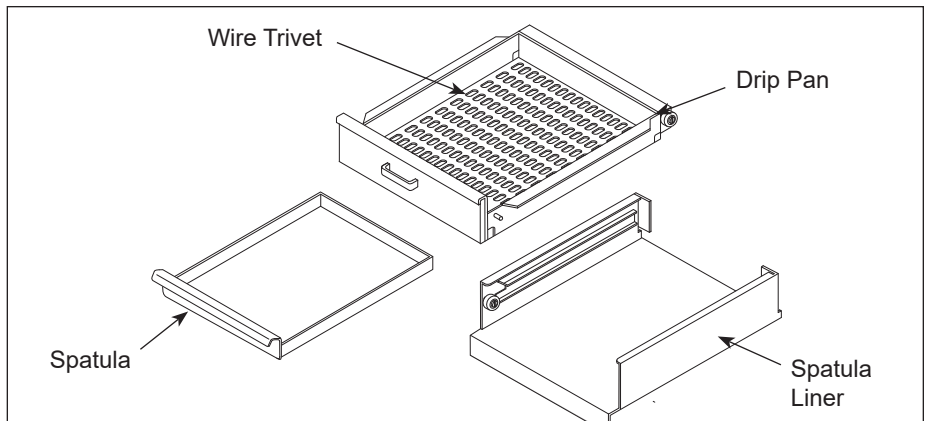

Figure 1. Washing Parts—MS-250 Only
4. **MS-250:** Remove and wash the Wire Trivet, Spatula, Spatula Liner, and Drip Pan (Figure 1) in soap and water. Rinse with clean hot water and allow to air dry.